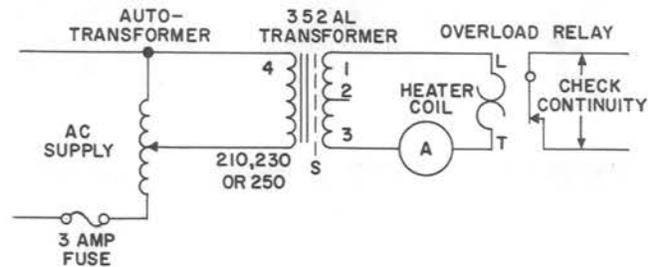

Fig. 9—Test Circuit for Checking Overload Relays
(3) This procedure applies for the test requirement of single-phase starters and 3-phase starters having a full-load motor current of 25 amperes or less.
(4) Open the ac supply at the switch and fuse unit by removing fuses or opening the motor circuit disconnect switch. Set up a test circuit as shown in Fig. 9. Connect terminals 1 and 3 of the 352AL transformer to the L and T terminals of the overload relay; terminals 4 and 210, 230, or 250, depending on line voltage, are connected to the output of the autotransformer. With the above arrangement, current up to 62-1/2 amperes at 2.5 volts ac can be obtained by manipulation of the autotransformer. With the test autotransformer, adjust the current to the required value.
(5) If no current flows when voltage is applied with the autotransformer, replace the heater coil. If a nonadjustable relay does not operate within 5 minutes, replace the relay. If an adjustable relay does not operate within 5 minutes, readjust the relay as covered in (1) or